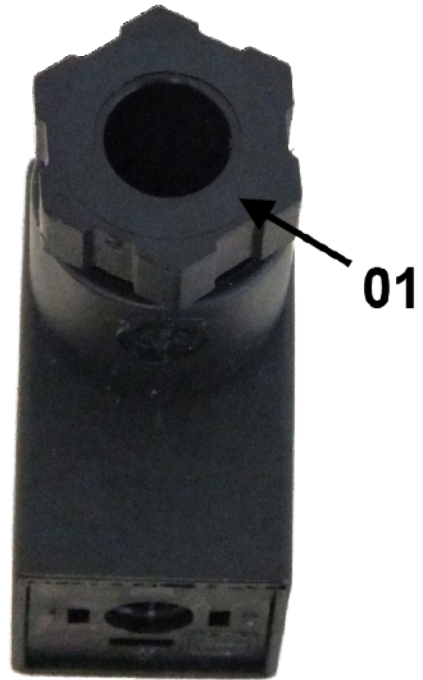

Fig. 23: Disconnect the screw connection
4. ➤ Unscrew the screw connection (Fig. 23/01) by turning in the left direction
8. ➔ Retighten the screw connection (Fig. 23/01) by turning it to the right